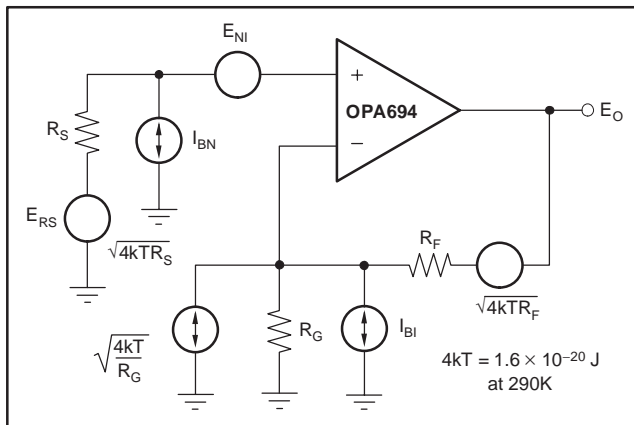

Figure 10. Op Amp Noise Analysis Model
Wideband, current-feedback op amps generally have a higher output noise than comparable voltage-feedback op amps. The OPA694 offers an excellent balance between voltage and current noise terms to achieve low output noise. The inverting current noise ( $24\text{pA}/\sqrt{\text{Hz}}$ ) is significantly lower than earlier solutions, while the input voltage noise ( $2.1\text{nV}/\sqrt{\text{Hz}}$ ) is lower than most unity-gain stable, wideband, voltage-feedback op amps. This low input voltage noise was achieved at the price of higher noninverting input current noise ( $22\text{pA}/\sqrt{\text{Hz}}$ ). As long as the AC source impedance looking out of the noninverting node is less than  $100\Omega$ , this current noise will not contribute significantly to the total output noise. The op amp input voltage noise and the two input current noise terms combine to give low output noise under a wide variety of operating conditions. Figure 10 shows the op amp noise analysis model with all the noise terms included. In this model, all noise terms are taken to be noise voltage or current density terms in either  $\text{nV}/\sqrt{\text{Hz}}$  or  $\text{pA}/\sqrt{\text{Hz}}$ .
The total output spot noise voltage can be computed as the square root of the sum of all squared output noise voltage contributors. Equation (4) shows the general form for the output noise voltage using the terms shown in Figure 10.